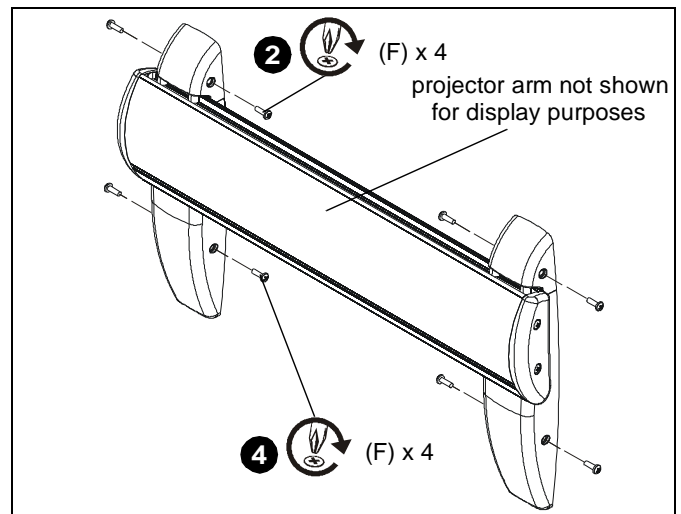

Figure 30
2. Secure wall bracket top covers (C) to wall bracket arms by installing four #8-32 x 1/2" Phillips pan machine screws (F) through holes in covers and wall bracket. (See Figure 30)
4. Secure wall bracket bottom covers (D) to wall bracket arms by installing four #8-32 x 1/2" Phillips pan machine screws (F) through holes in covers and wall bracket. (See Figure 30)